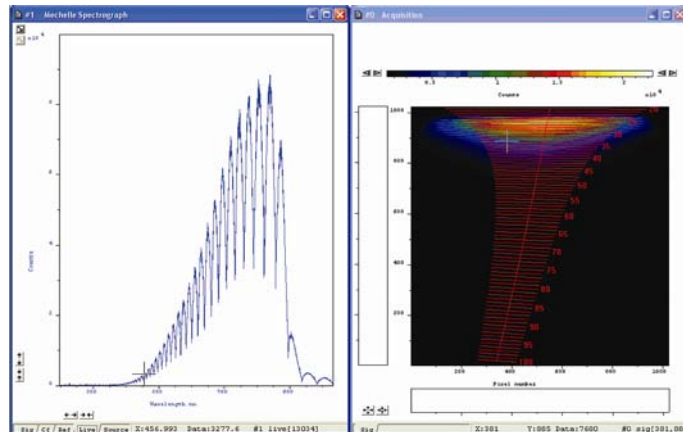

Figure 22: **Live** tab = row data from QTH lamp before correction
4. **Live:** the raw data of a new signal. An example for a QTH lamp is shown in figure 22 on page 43).